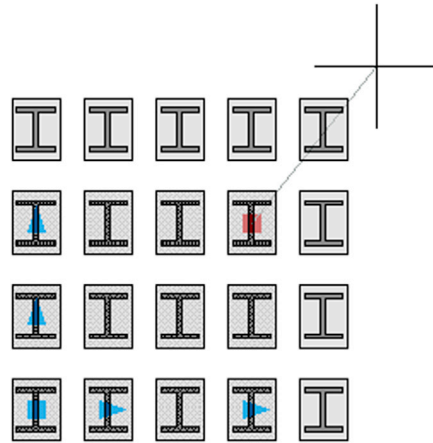

FIGURE 8.14 Creating a rectangular array dynamically.
Step 4. You have now successfully created the basic rectangular array. You still need to define the exact number of rows and columns, however, as well as the distance between them, as this current array is rather arbitrary. You can do this either via command line, dynamically (using grips), or via the Ribbon. Fig. 8.14 shows how you can pull the items diagonally in a dynamic fashion using the center grip. You can also do this via the outer arrow grips. This dynamic method is not really appropriate for setting distances between the columns, which are random values for now, but it does make creating the pattern very easy.